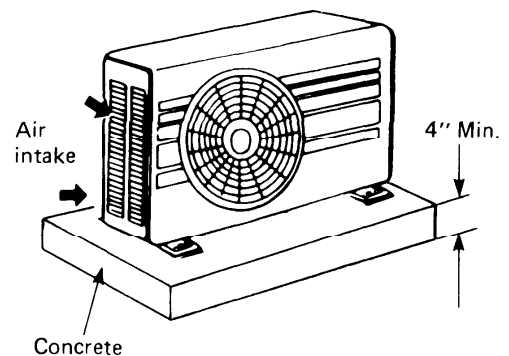

Fig. 4
- provide a solid base; about 4" above ground level to reduce humidity and possible water damage in unit and decrease service life. Fig. 4